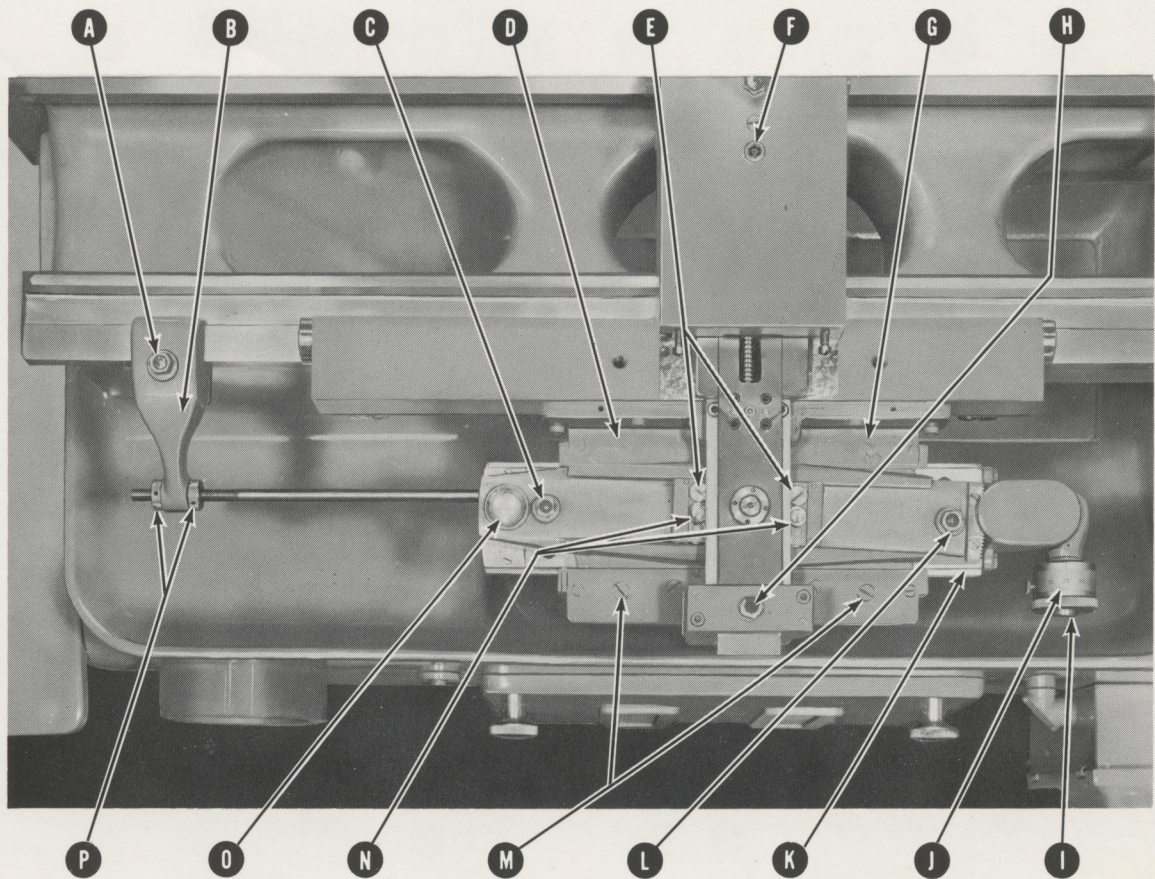

FIGURE 10. Taper Attachment
2. Loosen drawbar clamp (H) Figure 10.
3. Push slide (K) all the way toward the headstock.
4. Position bed bracket (B) and tighten clamp screw (A).
5. Tighten knurled nuts (P).
6. Loosen lock nuts (C) and (L).
7. Set swivel for required taper by turning knob (I) and observing graduations in magnifying lens (O). Scale is graduated in degrees, inches per ft., and mm per dm. For fine adjustment use vernier dial (J) which is graduated in minutes.
8. Tighten lock nuts (C) and (L).
9. Tighten drawbar clamp screw (F).
1. Loosen drawbar clamp (H).
2. Loosen lock screws (N) Figure 10.
3. Rotate eccentric studs (E) until the 4 shoe bearings will just roll as the slide is pushed back and forth.
4. Tighten lock screws (N).
5. Loosen lock nuts on the bottom of eccentric studs (G) and (M).
6. Straight stud (D) is used with eccentric stud (G) to obtain parallel alignment of slide (K) with the back of the carriage. A surface gage with dial indicator may be used to check the parallelism.
7. Tighten locknut on eccentric stud (G).
8. Adjust eccentric studs (M) so that bearings will just roll as slide is moved back and forth.
9. Tighten locknuts on eccentric studs (M).